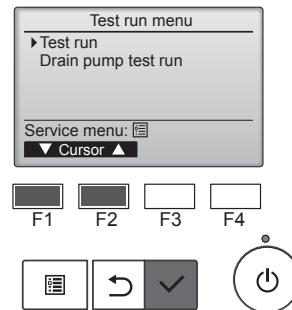

Fig. 7-5
- ④ Select “Test run” with the [F1] or [F2] button, and press the button. (Fig. 7-5)